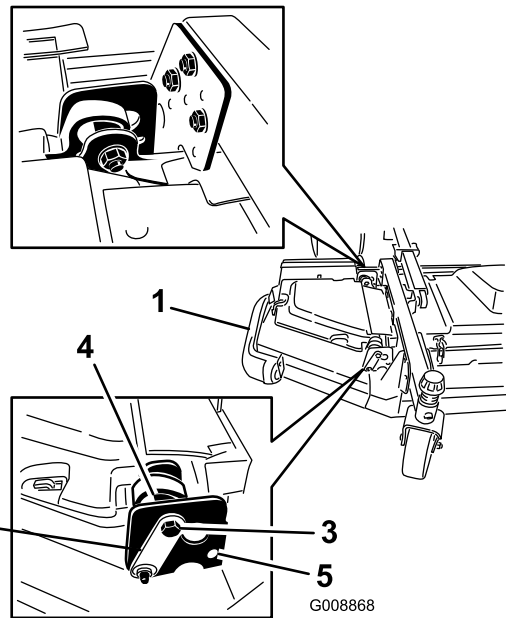

Figure 7
- Loosen the bolts and nuts securing the two eccentric spacers to the winglets (Figure 7).
- Rotate the rear (closest to traction unit) eccentric until the outside blade tip is about 3 mm (1/8 inch) higher than the desired height of cut (Figure 7).